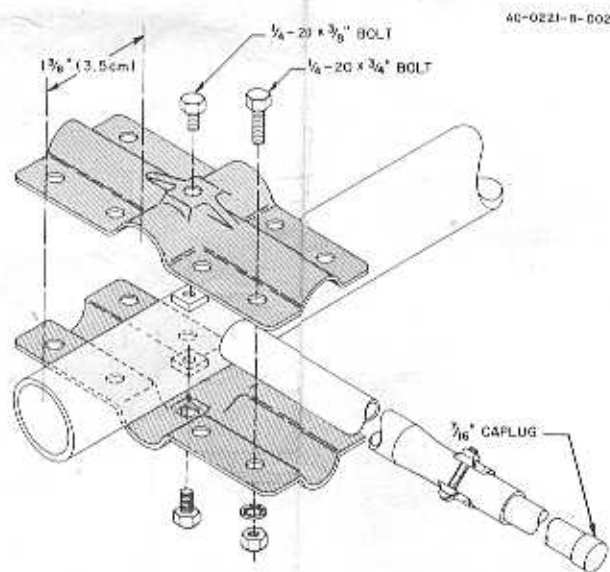

Figure 2. Reflector/Director Detail
- () Start at the reflector end (boom section that has the hole drilled in it) and measure 1 3/8" from the end of the boom and install the element-to-boom bracket as shown in Figure 2. Be sure to start the anchor screws and square nuts in the center hole. **Do not** tighten this screw.